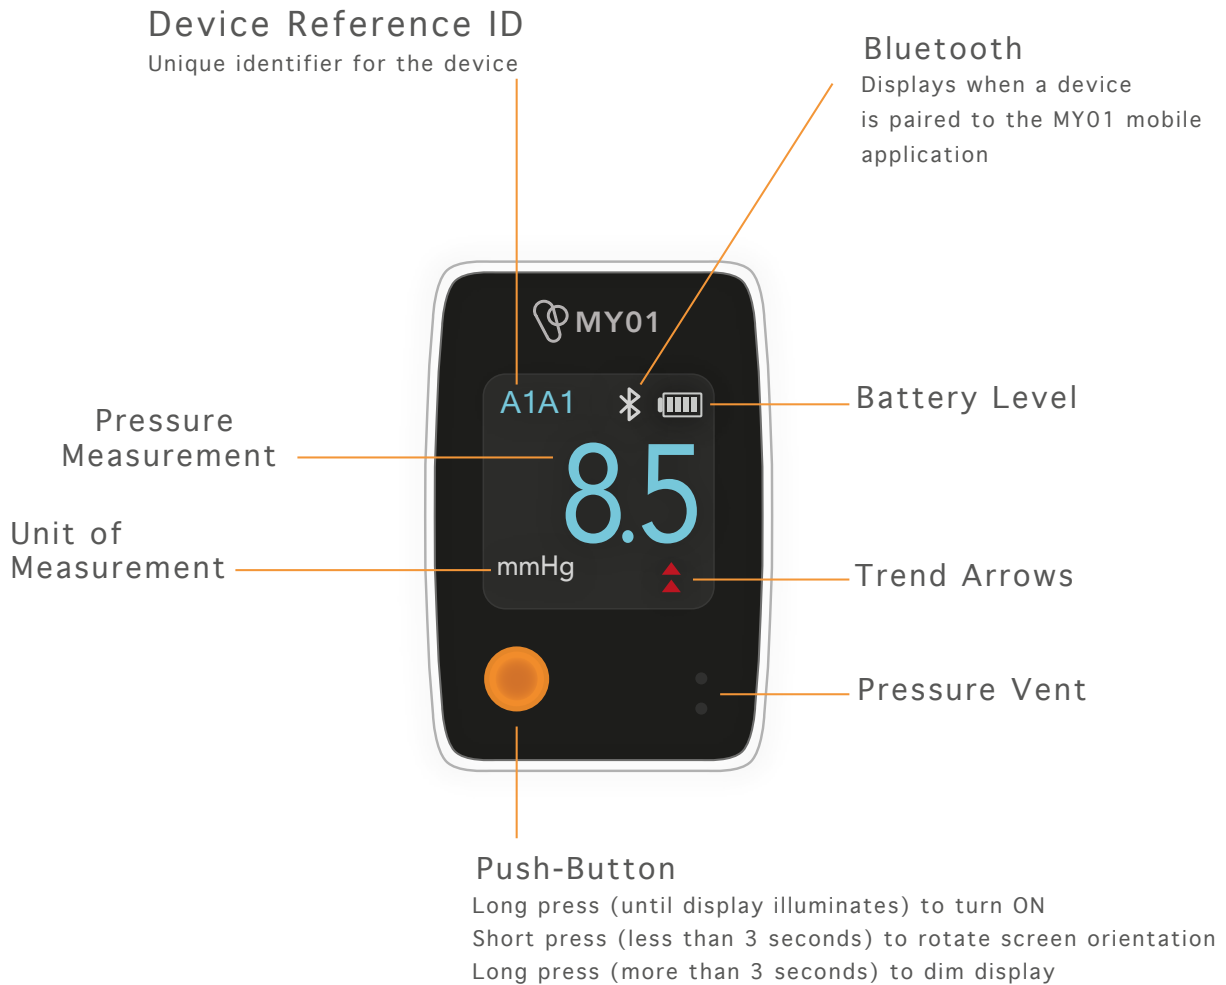

Figure 4: Device Controls and Display Icons
- Always keep the Pressure Vent on the bottom-right of the screen unobstructed (see Figure 4).
- If the adhesive strip is not exposed after ejecting the Pressure Monitor from the Introducer (see Figure 15), manually remove the protective liner. Do not re-apply the adhesive. Additional medical tape should be used if the location of the Device Body is changed after the first application. Ensure that the Pressure Vent (see Figure 4) is not covered by the medical tape.